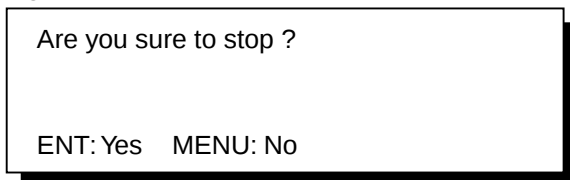

Figure 4-6
- 13) Press the [CU/NU ENT] key. The message shown in Figure 4-6 appears while data is being loaded.